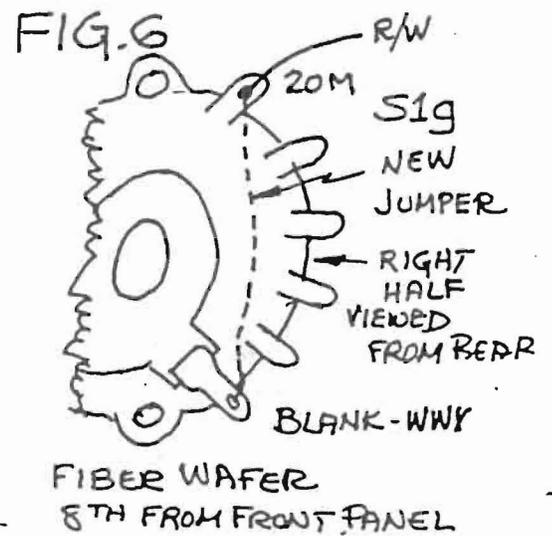

FIG. 6
- ( ) 22. See Figure 6. A similar difficult operation must be performed on the eighth wafer from the front of the set. In this case, the upper 20-meter lug has a red/white wire on it -- standing at the back and looking toward the front it is the top lug of the right half. It is not the lug with red/white wire on the other side of the top support. Straight down from that right side lug, at the very bottom, there is a bare WWV lug. A jumper must be connected between those two lugs, top to bottom, and it will require extreme patience and care. Make a hook in the end of an insulated wire jumper (of about 4" length, for now); trim and tin it well and insert the tinned hook in the lower (blank) lug. Then bend the upper end of the lead to hold it in place while soldering at the lower lug. When the lower connection is fully made, cut, strip and tin the jumper to solder the top end on the upper 20-meter lug, leaving the existing R/W lead in place.